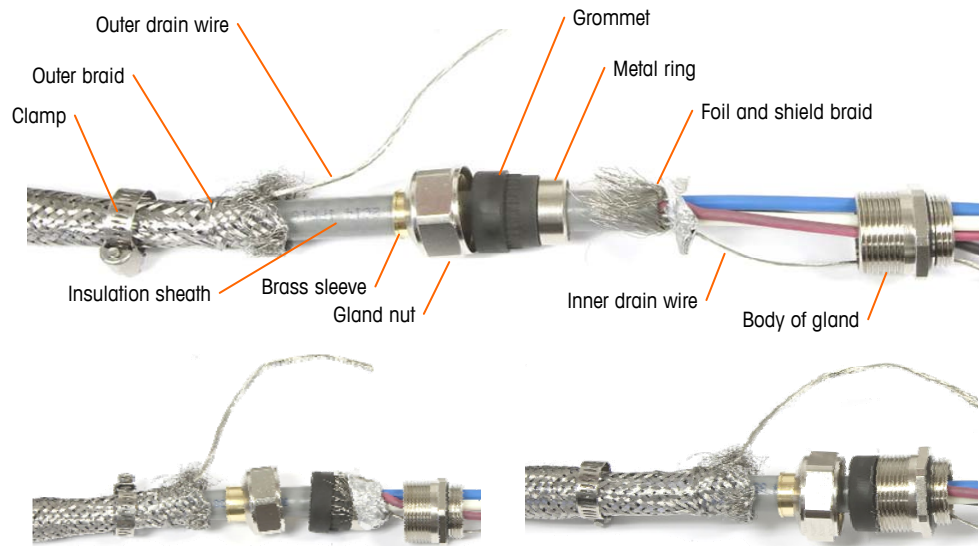

Figure 2-48: PDX Home Run Cable and Gland Assembly
- a. Install the cable gland assembly, metal clamp and the brass sleeve onto the home run cable while sliding back the outer braid shield (Figure 2-48). The inner drain wire should go into the enclosure through the cable gland, while the outer drain wire remains on the outside.
- b. Fold and spread out the inner braid shield and foil over the metal ring before pressing the grommet into the body of the cable gland, as shown in Figure 2-48. Tighten the cable gland's nut with the brass sleeve onto the body of the gland.